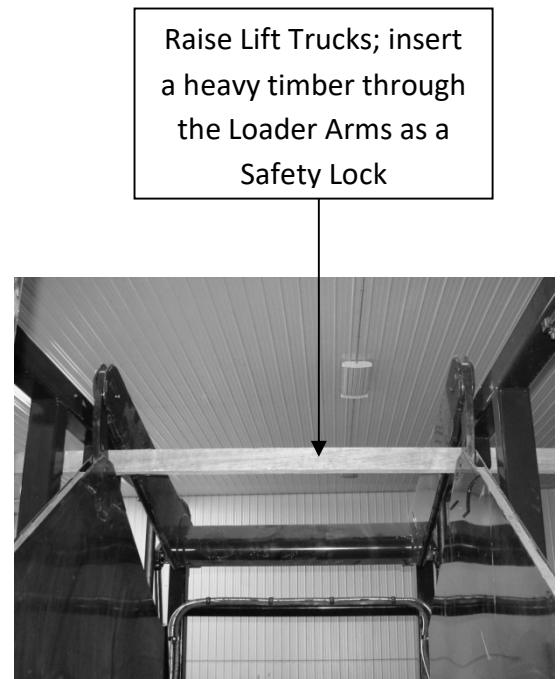

Figure 6.5
Before any work is done to the Vertical Stacking Accumulator, the Loader Arm must be raised and blocked with a suitable block; wood or metal (Figure 6.5). Failure to do so may result in bodily harm while maintaining this machine.
1. Ensure Loader Arms are blocked (see figure 6.5).